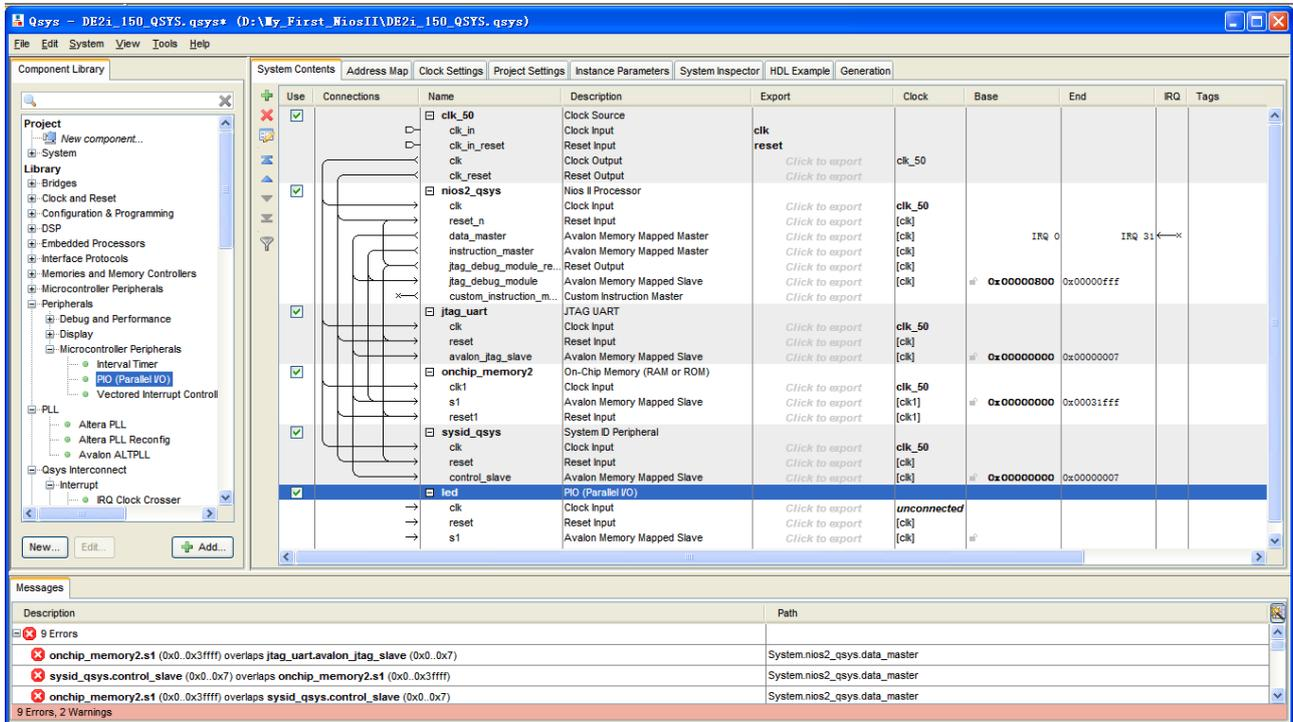

Figure 1-40 Rename PIO
25. Rename **pio_0** to **led** as shown in Figure 1-40.